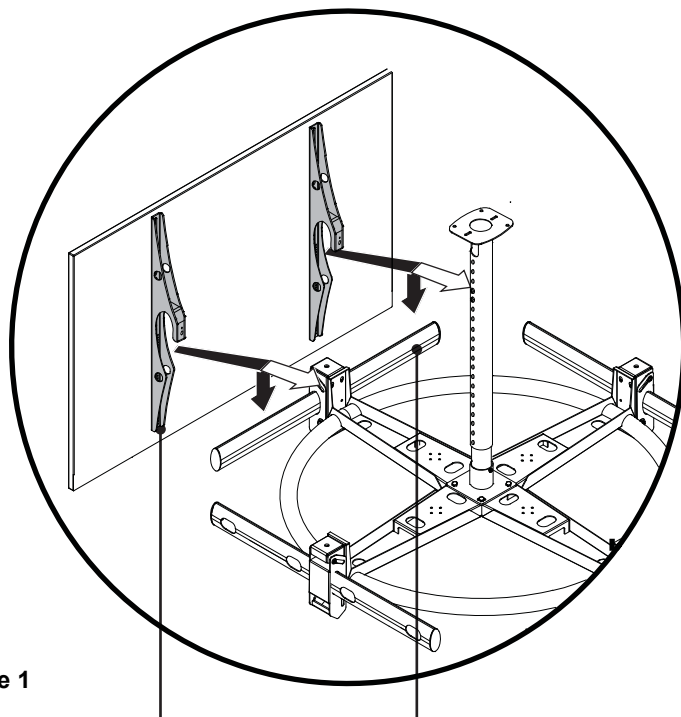

Figure 1
- ❶ Insert a small straw or toothpick into the threaded inserts found on the back of the flat panel.
- ❷ Use a pencil to mark the depth of the threaded insert on the small straw or toothpick.
- ❸ Mark the straw or toothpick  $\frac{1}{8}$ " above the depth of the threaded insert, as shown in Figure 1.
- ❹ Insert the small straw or toothpick into the remaining threaded inserts to compare and verify their depth using the straw or toothpick's  $\frac{1}{8}$ " allowance mark.
- ❺ Locate the correct diameter screw for the threaded insert.